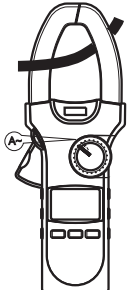

Figure 9
- When measuring DC current, if the reading is positive, then the current direction is from up to down (see Figure 9: the front case face up while the bottom case face down)
G.Measuring AC Current (See Figure 9)